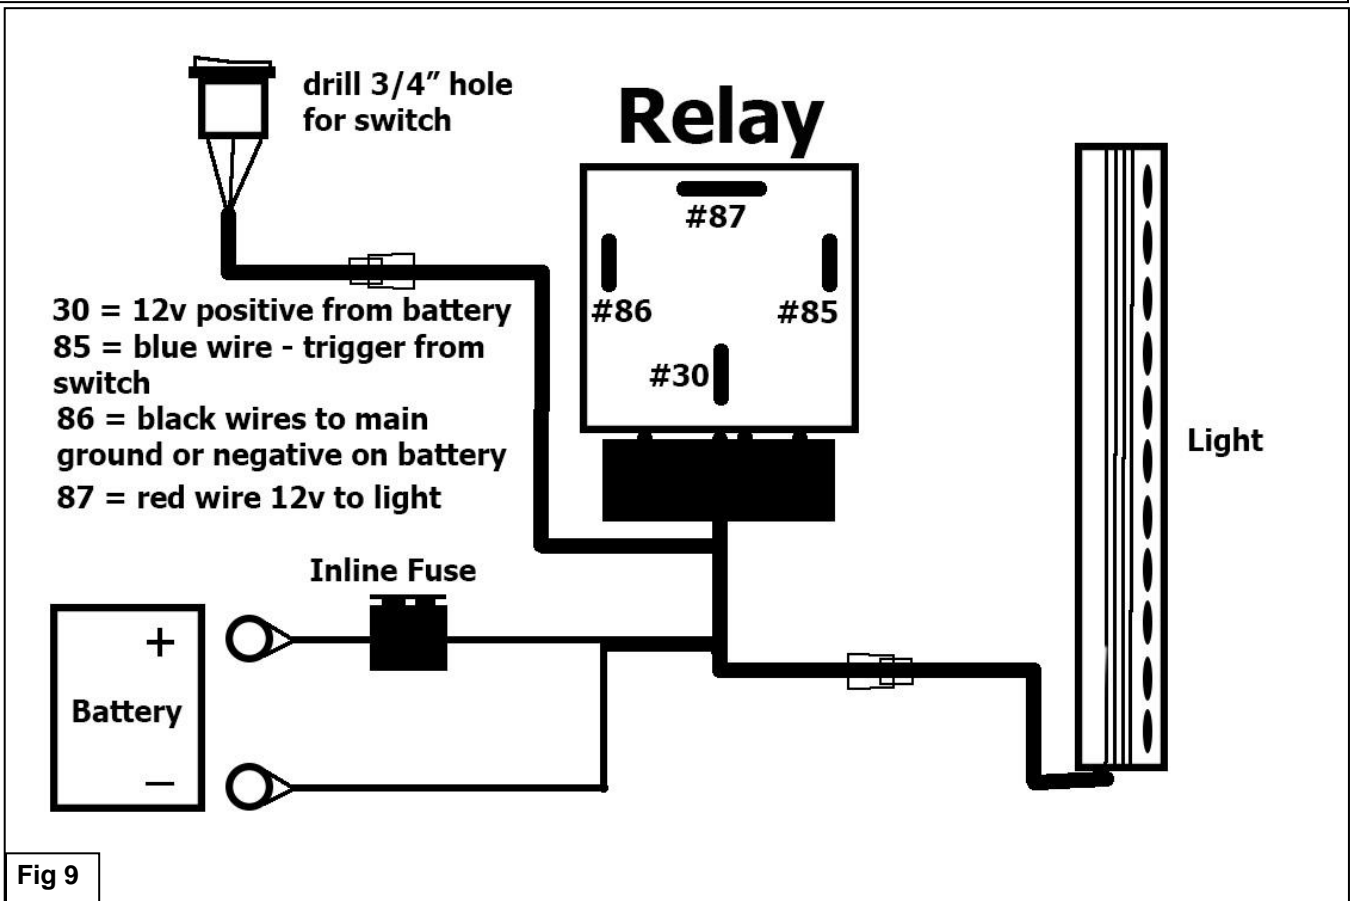

Fig 9
- Unwrap preassembled wiring harness, **(Figure 9)**. Disconnect the plug in the harness leading to the lighted switch. Locate suitable mounting location for switch. Drill 3/4" hole in panel to mount switch.